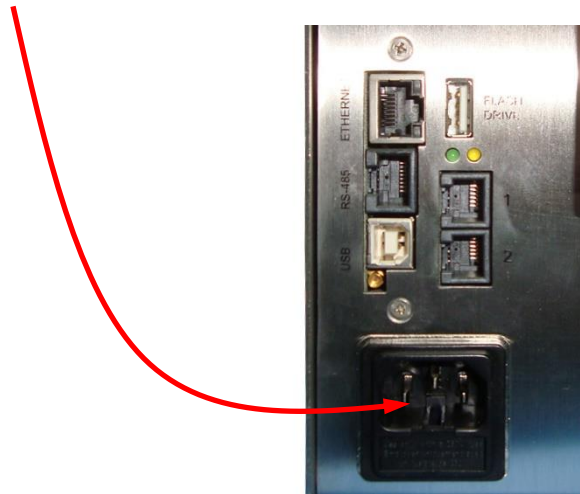

Figure 6-2 AC Power Input Connection
4. Plug AC power cord into SOLAIR and AC outlet. Make sure enough space exists to allow quick and safe removal of the AC cord if needed. See Figure 6-2.